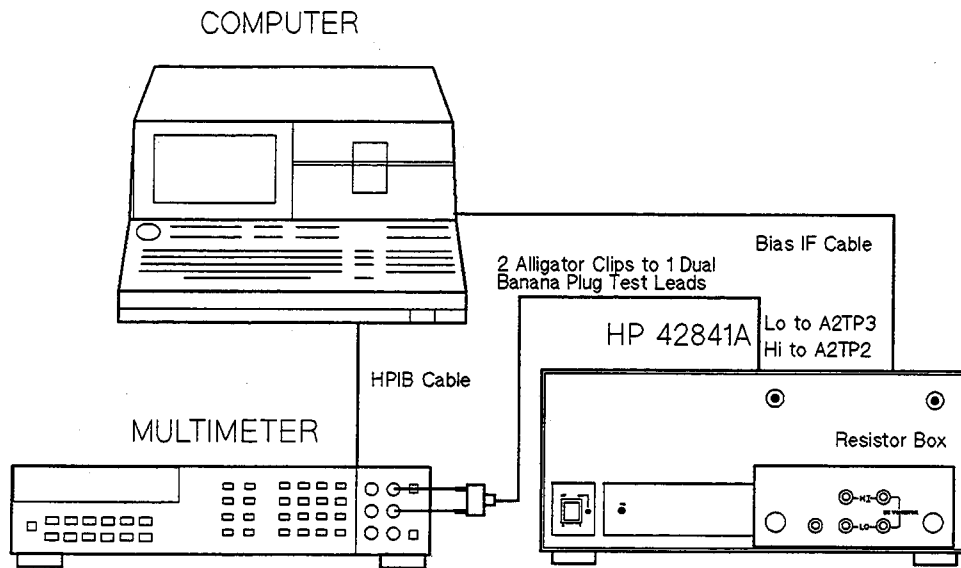
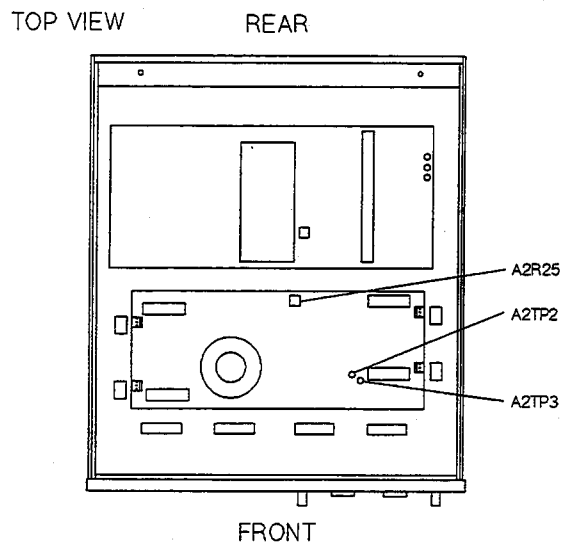

Figure 3-6. Bias Current Sink Adjustment Setup
Figure 3-7. Bias Current Sink Adjustment Location
7. Perform the Bias Current Sink Adjustment according to the program's instruction. Figure 3-6 shows the adjustment setup. Figure 3-7 shows A2R25's (**SINK ADJ**), A2TP2 and A2TP3 (**COM**) locations.